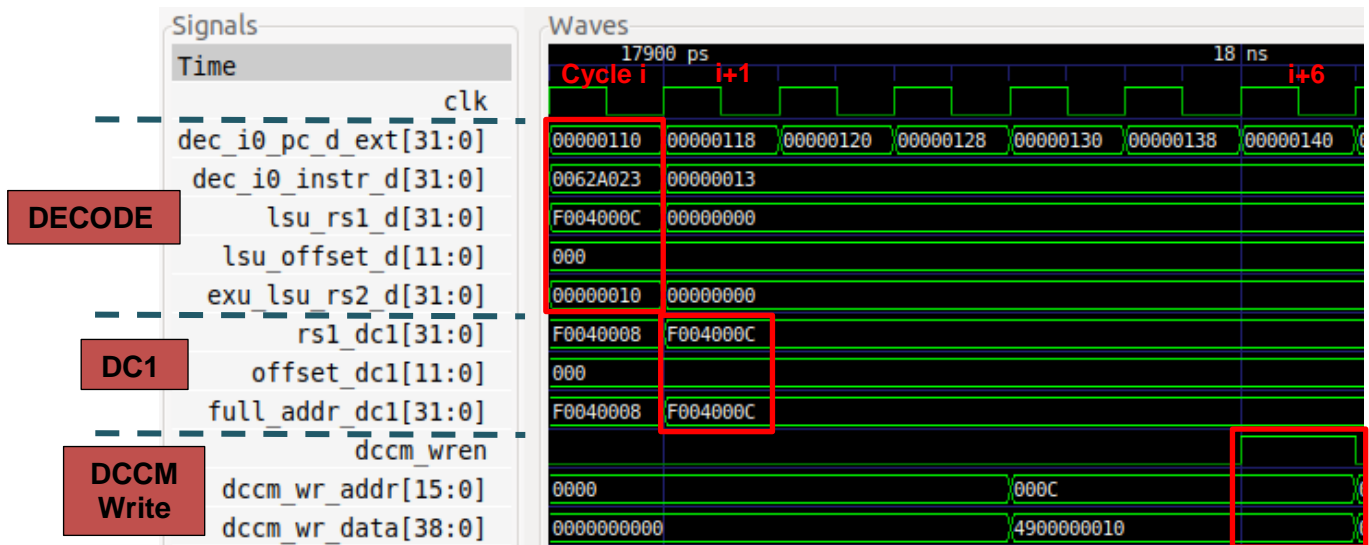
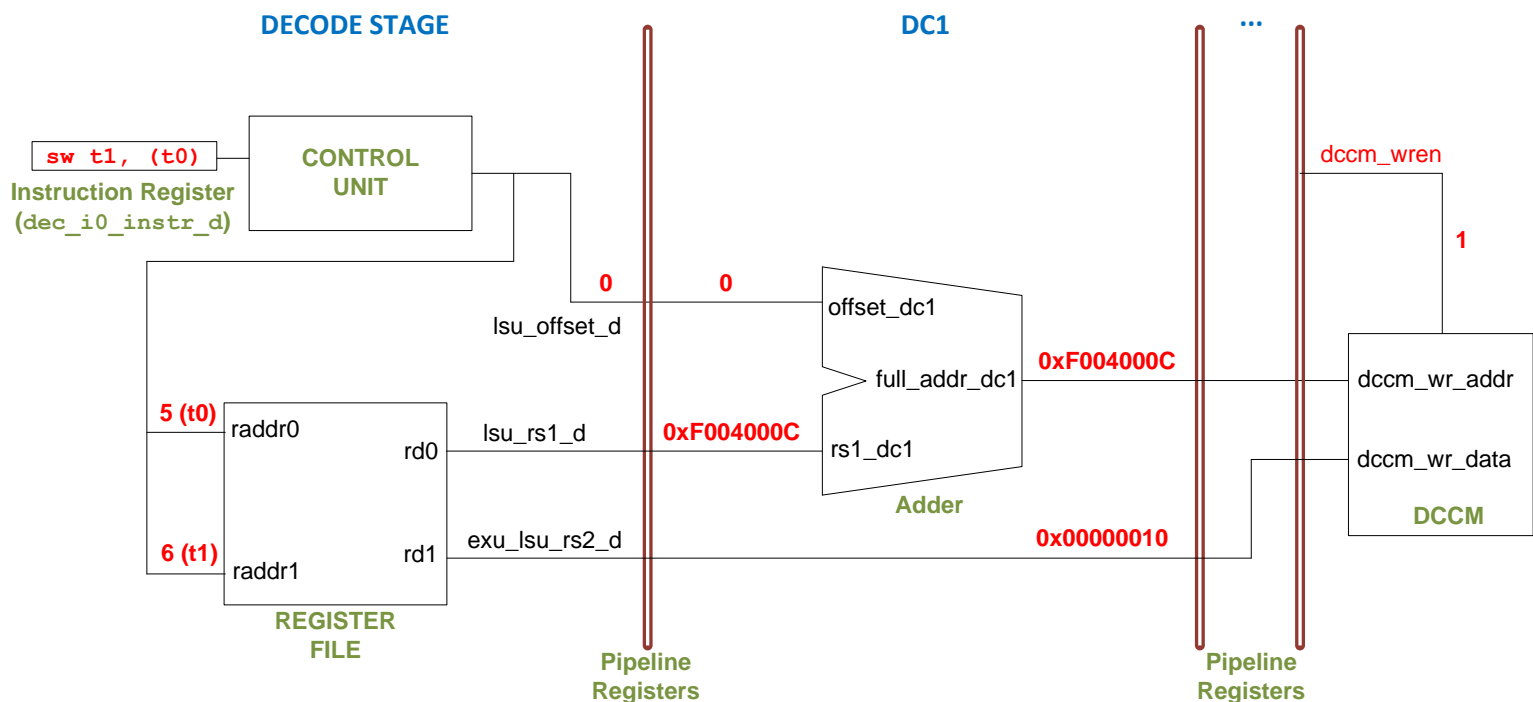
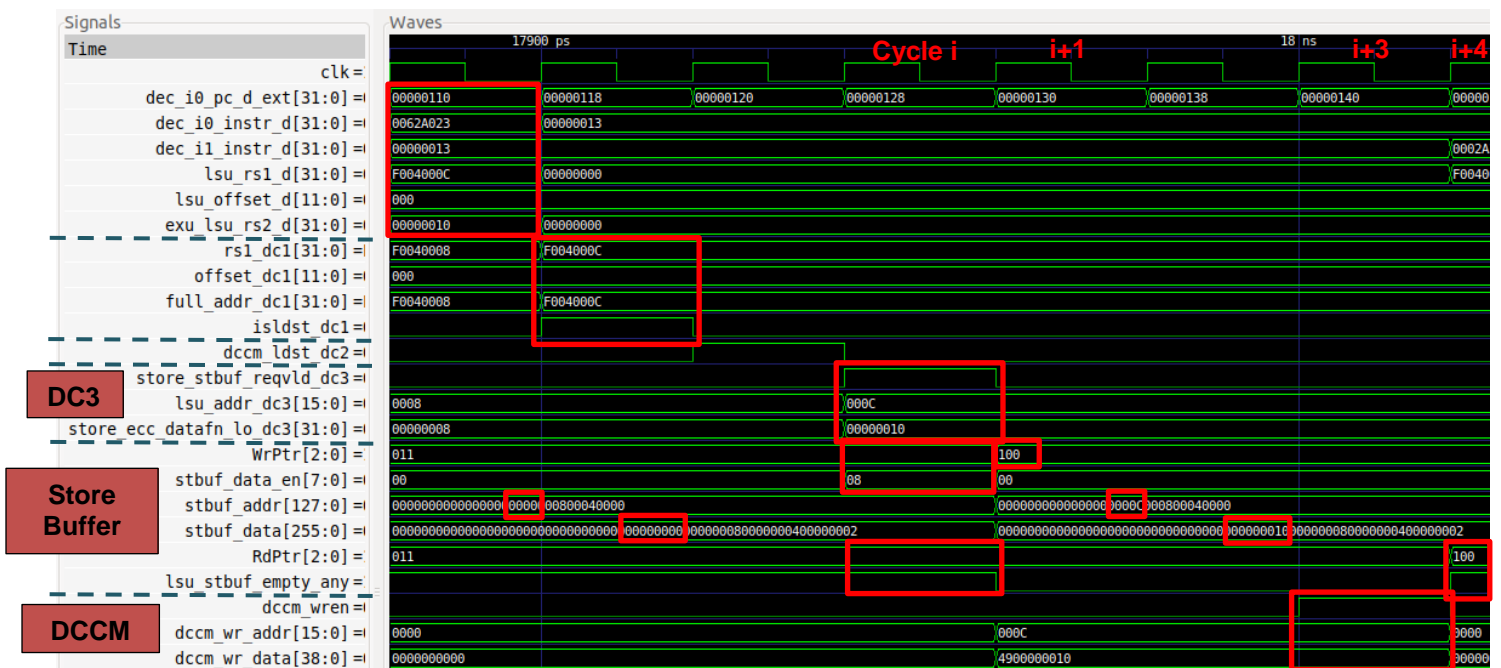
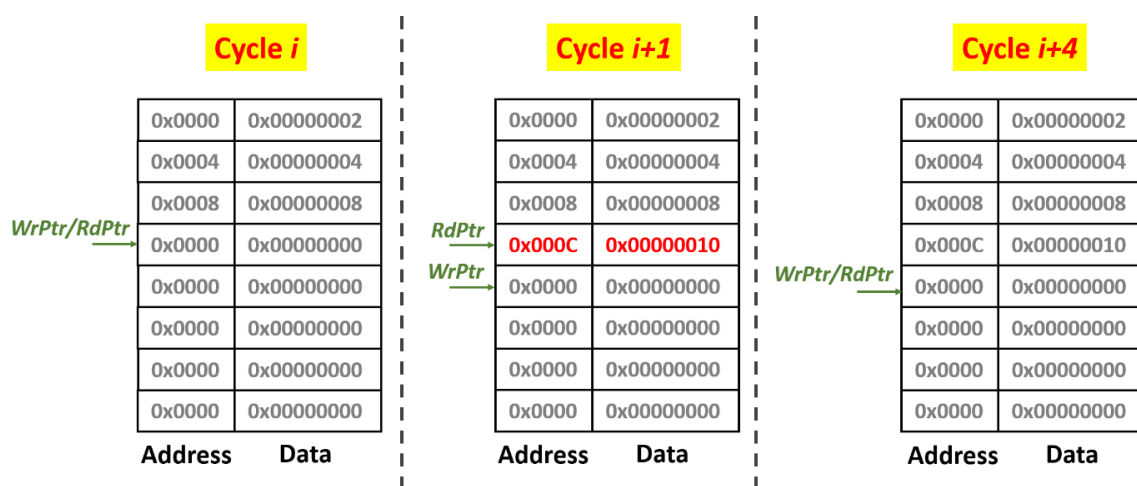

Figure 12 Verilator simulation for the example of Figure 11
Figure 13 High-level view of the execution of the `sw` instruction in SweRV EH1
Figure 18. Verilator simulation for the example from Figure 11 illustrating the *Store Buffer* operation
Figure 19. *Store Buffer* changes during the example from Figure 18
Figure 12 shows the execution of the `sw` instruction during the fourth iteration of the loop from Figure 11. Any iteration except the first one could be analysed. As usual, the first execution of an instruction should not be used in order to avoid instruction cache (I\$) misses.
Figure 13 shows a high-level view of the SweRV EH1 pipeline while executing the `sw` instruction during the fourth iteration of the loop from Figure 11. Register `t1` (which holds the value to write to memory) is `0x10` and `t0` (which holds the base address) is `0xF004000C`. Thus, `sw` writes the value `0x10` to the DCCM address `0xF004000C`. The figure shows the real names used in the Verilog modules of the SweRV EH1 processor. Note that the figure merges the state of the processor in different cycles:
Note that the store is not a critical operation in terms of program execution time, so it can be delayed several cycles without impacting performance. In contrast, load instructions can be critical, as they often read a value needed by a subsequent instruction, thus, as mentioned in the previous section, a store-load forwarding path is implemented (not shown in Figure 13), which saves memory accesses and avoids pipeline stalls in case of a data hazard between a store and a subsequent load to the same memory address. We analyse this situation in Lab 15.
TASK: Replicate the simulation from Figure 12 on your own computer. Follow the next steps (as described in detail in Section 7 of the GSG):
Analyse the waveform from Figure 12 and the diagram from Figure 13 at the same time. The figure includes some signals associated with the Decode and DC1 stages, as well as some signals related with the DCCM write, which happens several cycles later. The values highlighted in red correspond to the `sw` instruction as it traverses these stages.
- **Cycle i+6: DCCM Write:** After five cycles, the DCCM receives the write data and address (`dccm_wr_addr=0x000C` and `dccm_wr_data=0x4900000010`) from the *Store Buffer*. Note that the DCCM only receives the last 16 bits of the address (`0x000C`), because its actual size is 64 KiB in our configuration (see file `common_defines.vh`) and 16 bits are enough for addressing 2^{16} bytes. The data has been prepended with some ECC bits (`0x49`). When signal `dccm_wren` asserts (in cycle i+6 in Figure 12) the write to the DCCM completes.
Figure 18 shows some of the relevant signals of the *Store Buffer* when executing the code from Figure 11. These new signals are added to the ones shown in Figure 12. Like that figure, Figure 18 shows the execution of the s_w instruction in the fourth iteration of the loop.
TASK: Replicate the simulation from Figure 18 on your own computer. Use file *scriptStoreBuffer.tcl* (provided at
The top signals (from the Decode, DC1 and DC2 stages), were shown in Figure 12 and explained there, thus we do not explain them here again. In DC3 (cycle i in the figure), the write to the *Store Buffer* is prepared. The final address and the data to be written to memory by the store instruction are sent to the *Store Buffer* through signals $lsu_addr_dc3 =$
Figure 19 shows how the 8-entry *Store Buffer* evolves in the example shown in Figure 18. In cycle *i*, the *Store Buffer* is empty, indicated by `WrPtr == RdPtr`. In cycle *i*+1 the *Store Buffer* contains one *address/data* pair (0x000C/0x00000010), which corresponds to the store analysed in Figure 18. Finally, in cycle *i*+4, the data is written to the DCCM and the *Store Buffer* becomes empty again (`WrPtr == RdPtr`).
TASK: Modify the program from Figure 11 in order to have two outstanding stores and perform a similar analysis to the one from Figure 18.